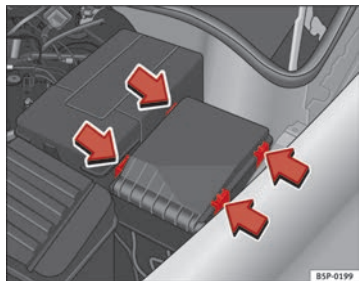

Fig. 185 Fuse box cover in engine compartment
- Prise off the fuse cover in the engine compartment by pressing the tabs towards the centre of the cover ⇒ fig. 185.